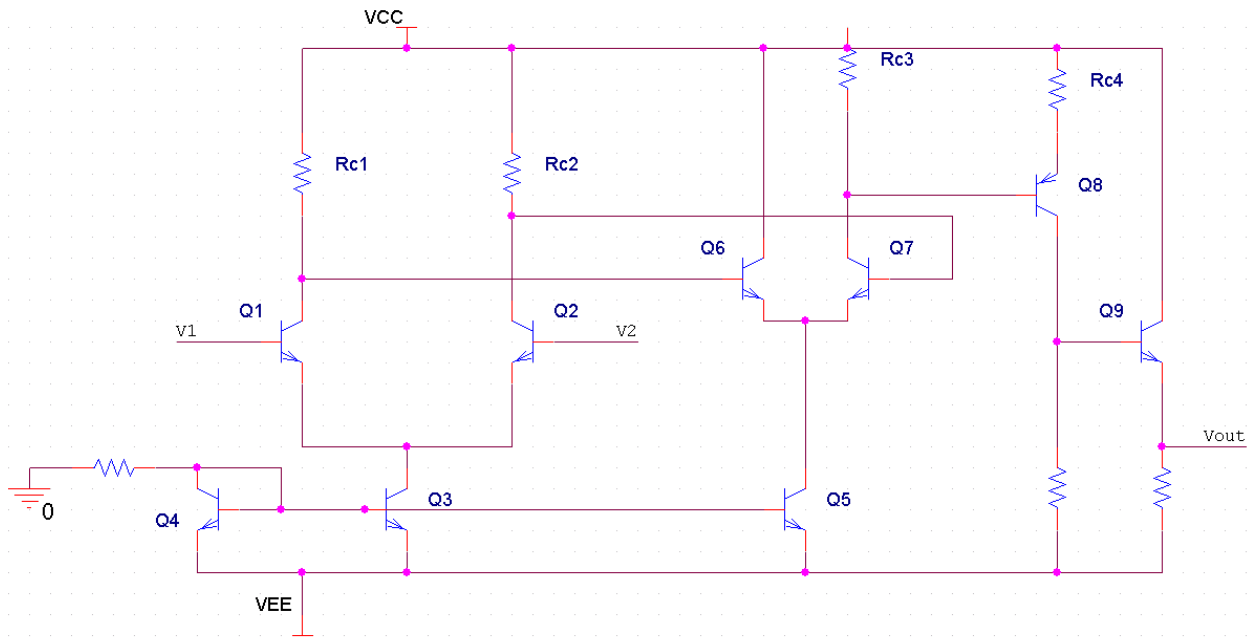

Figure 1.2.
1.3.1. Design and build a two stage diff-amp (Fig. 1.2) with a linear output response in the frequency range of 20Hz to 20KHz. Target a minimum open circuit voltage gain of 1000 V/V, and a closed-circuit gain of 100 V/V. Design for low power consumption.